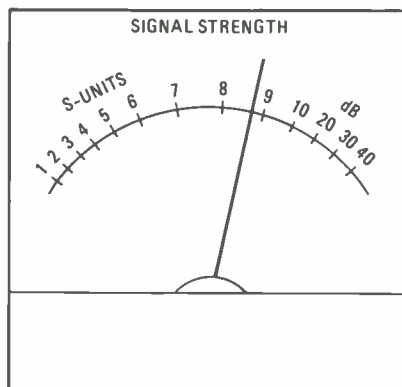

Fig. 1. Most receivers are equipped with S meters to indicate the strength of the received signal.
**Signal Strength Reports.** Most of our receivers are equipped with S meters to indicate the strength of the received signal. The S meter (Fig. 1) allegedly measures input-signal strength in a rigorously defined manner. The truth, however, is that receiver manufacturers can't even decide on what constitutes the correct definition of an "S unit." Note how the S meter is calibrated. The lower two-thirds or so of the meter is calibrated in the nearly arbitrary "S units." The S scale is logarithmic. The upper one-third of the meter face is calibrated in decibels (dB), so it, too, is logarithmic.